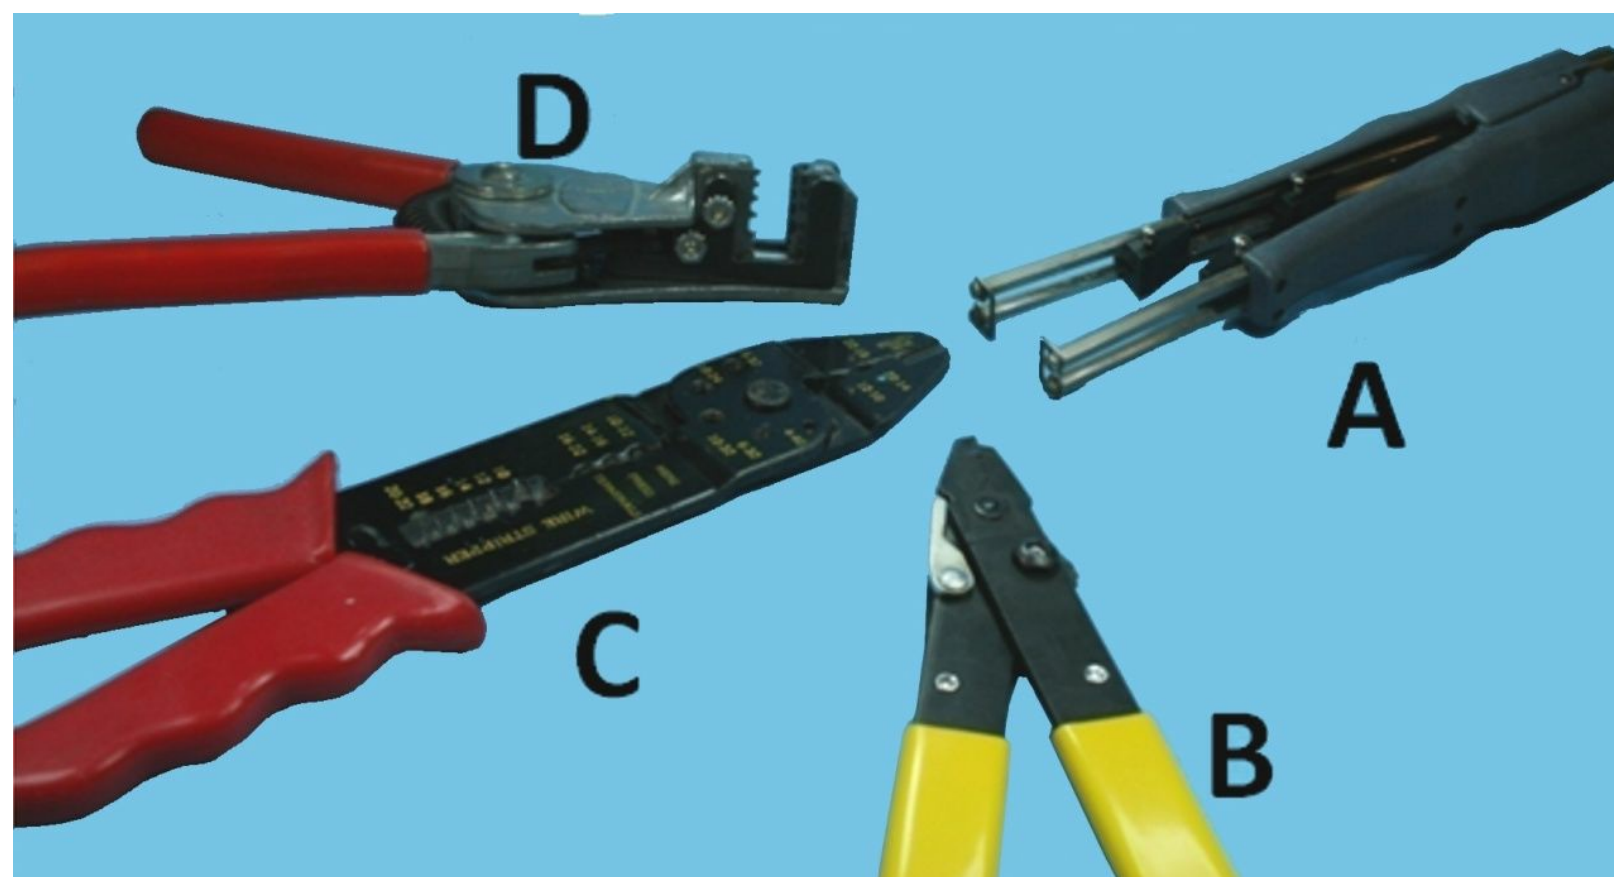

Figure 2-1
The idea behind wire stripping is to cut the insulation but not the wire underneath. **Figure 2-1** shows four types of wire stripping tools commonly used to perform this task. Each tool has advantages and shortcomings. One tool you may have never seen is the thermal wire stripper in the top right (A) of the photo. It uses heat to melt the insulation, which makes it almost impossible to damage the conductor. Thermal strippers can be slow as it takes a few seconds for the tools tips to heat and melt the insulation. Additionally, such strippers normally have a temperature adjustment must have the temperature set properly for the type of insulation to be stripped. PVC and rubber insulation need a